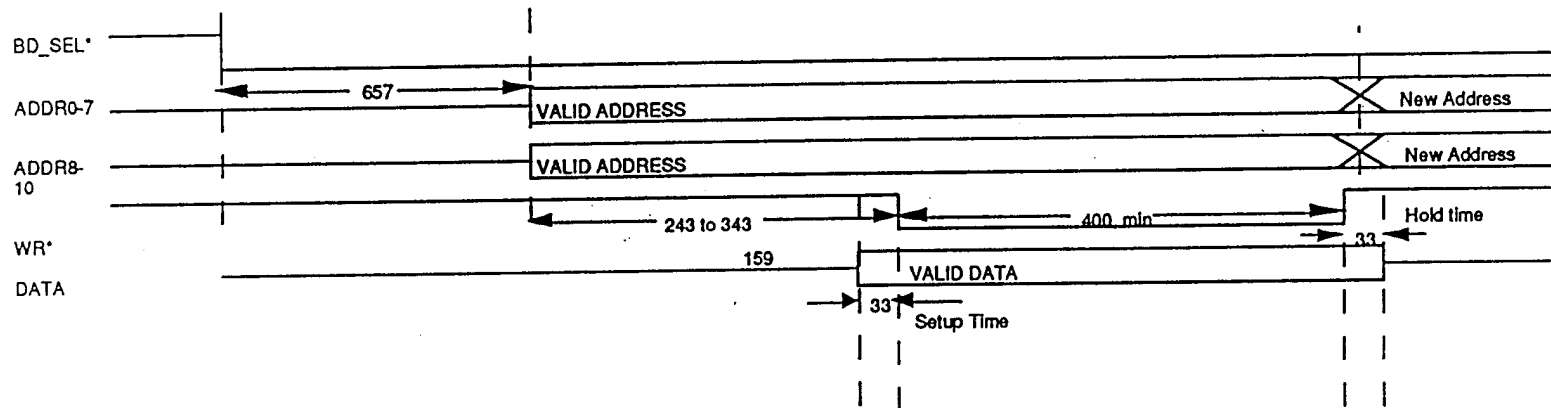

FIGURE 12 - Write Cycle Timing
3.3.2 WR\*. An 8051 external data write cycle. The 8051 is running at 12 Mhz. Write cycle timing is shown in Figure 12.